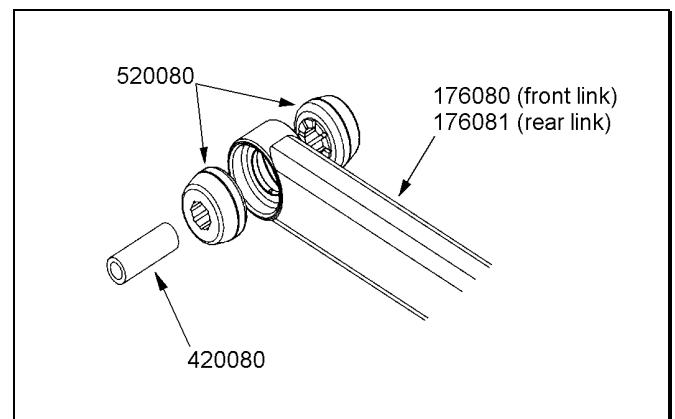

Figure 1
- 2) ☒ Press the lubricated bushings into one end of a new Rancho lower link (176080 or 176081) as shown in figure 1.